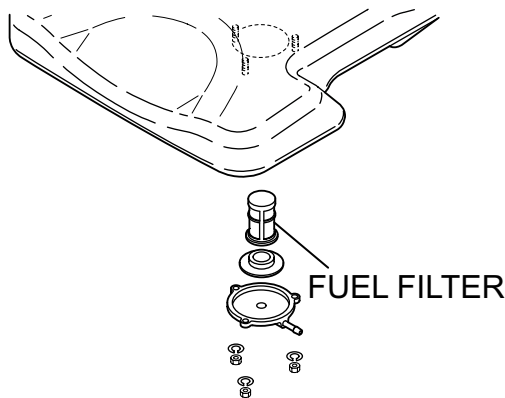

Figure 11. Fuel Filter
- Remove the fuel filter cap and clean the inside of the fuel tank (Figure 11).